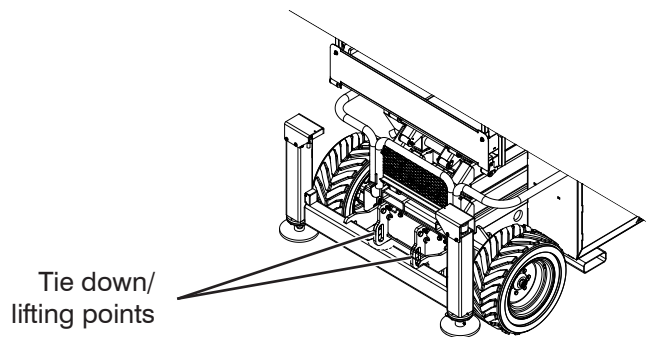

Figure 3-13. Tie Downs/Lifting Points
- The lifting/rigging must be attached to all four lifting points as illustrated in Figure 3-13.
When transporting, the aerial platform must be secured to the truck or trailer deck. Tie downs are available as illustrated in Figure 3-13.